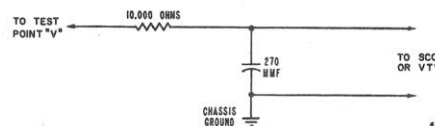

Figure 11. Decoupling Filter.
(b) Be sure that a decoupling network is used at the video detector output and that the leads on the network are kept as short as possible; see figure 11.
- Connect VTVM high side to test point "V" through a decoupling filter, common to chassis. See figures 11 through 14. Use lowest DC scale on VTVM.